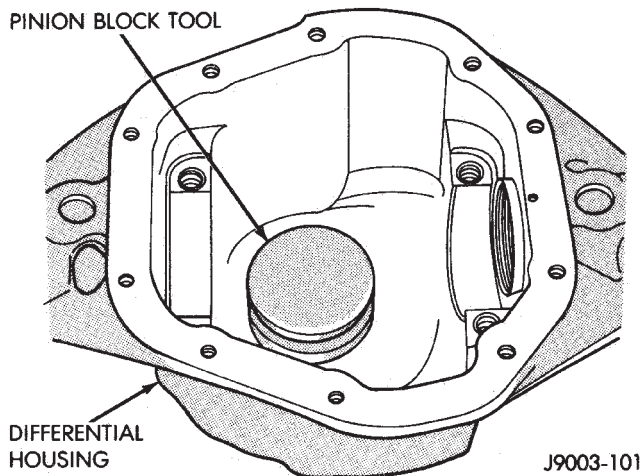

Fig. 47 Pinion Block Tool Inserted In Shaft Bore
(1) Insert Master Pinion Block D-138 into the pinion gear bore (Fig. 47).